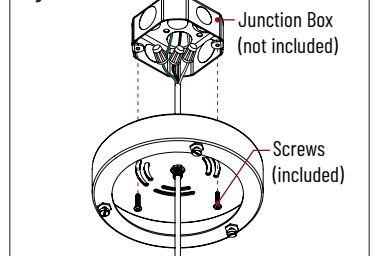

Figure 5
5. Attach cylinder to cylinder cap through keyhole slots. (Figure 5)